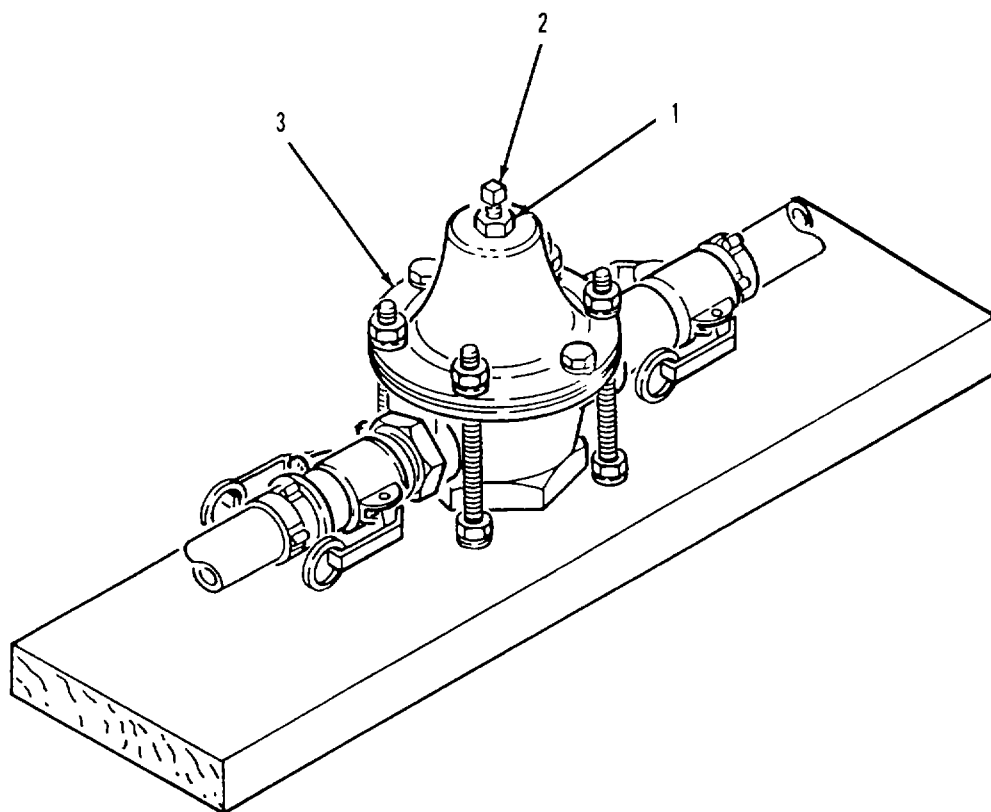

Figure 4-12. Water Pressure Regulator Adjustment
(19) Install threaded rods (10) on board (11) with four washers (7) and nuts (6) Adjust position of nuts (6 and 9) on threaded rods so that rods extends about 1/4-inch below board
(20) Install four nuts (5) and washers (10) on threaded rods (10)
(21) Lower regulator assembly (3) onto threaded rods (10)
(22) Install four washers (2) and nuts (1) on threaded rods (10)
(23) Position four nuts (5) and washers (4) against bottom of regulator assembly (3), then tighten four nuts (1)
f. Adjust. Refer to figure 4-12
(1) Install regulator assembly in water system (hose and nozzle kit) (para 3-4a)
(2) Startup water system (para 2-12c) and check regulator assembly for leaks
(3) Squeeze distribution nozzle control lever (para 2-2) and allow water to flow
(4) If water flow at distribution nozzle is not at desired pressure, loosen locknut (1) on regulator assembly (3).